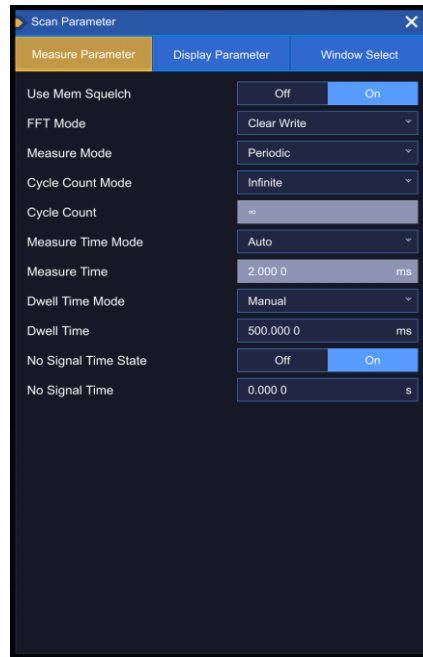

Fig. 4.13 List Scan Parameter Settings
Step 1. After editing the storage table, set the list scan parameters, as shown in Fig. 4.13: